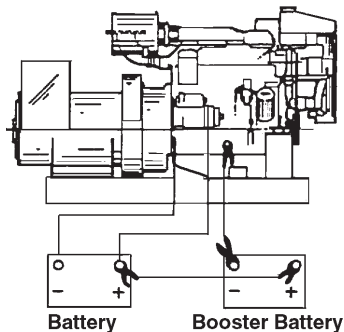

Figure 19: Battery connections.
3. First, connect positive (+) terminal of booster battery to positive (+) terminal of main battery. Then, connect negative (-) terminal of booster battery to ground on the engine block (see Figure 19).